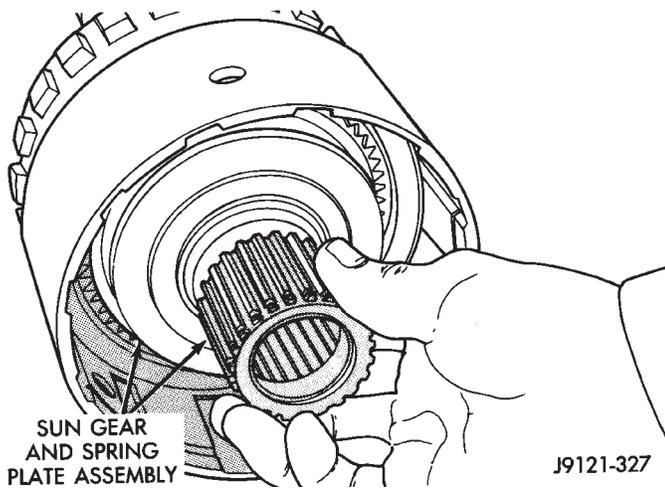

Fig. 244 Sun Gear Installation
(14) Install assembled sun gear, spring plate and thrust bearing (Fig. 244). Be sure sun gear and thrust bearing are fully seated before proceeding.
(15) Mount assembled output shaft, annulus gear, and clutch drum in shop press. Direct clutch spring, hub and clutch pack are easier to install with assembly mounted in press.